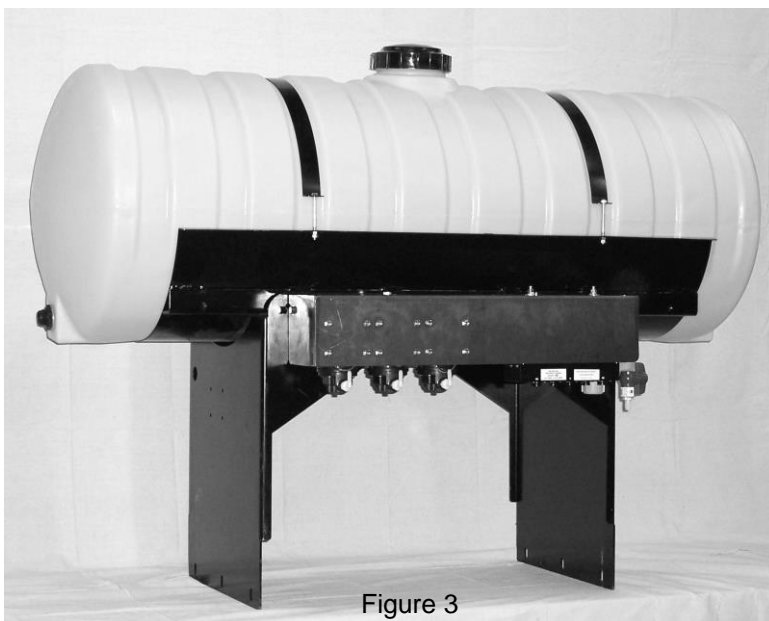

Figure 3
3. Attach the pump plate holder (001-4646D) to pump plate mounting bracket (001-4646C) using four 3/8 x 3/4 flange head bolts. Figure 3.